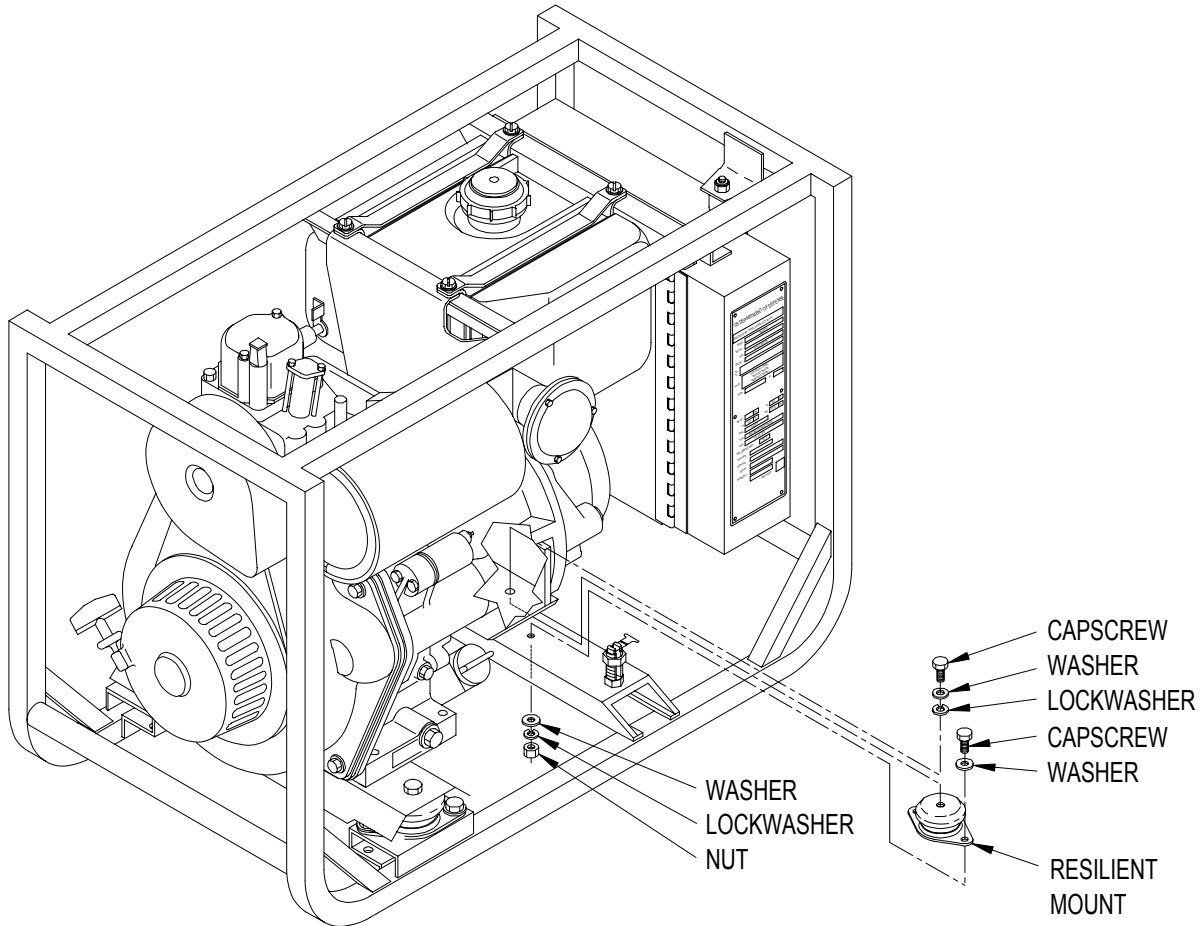

Figure 4-8. Alternator Resilient Mount (MEP-501A)
- (1) Shut down generator set.
- (2) Remove capscrew (Figure 4-8), washer, and lockwasher securing alternator support bracket to resilient mount.